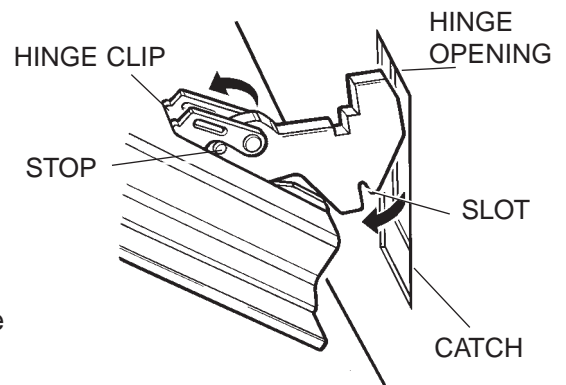

Figure 21 - removing the oven door
2. Raise one hinge clip and rotate it towards you as far as the stop (Figure 21). Repeat the procedure with the second hinge clip on the other side of the door.